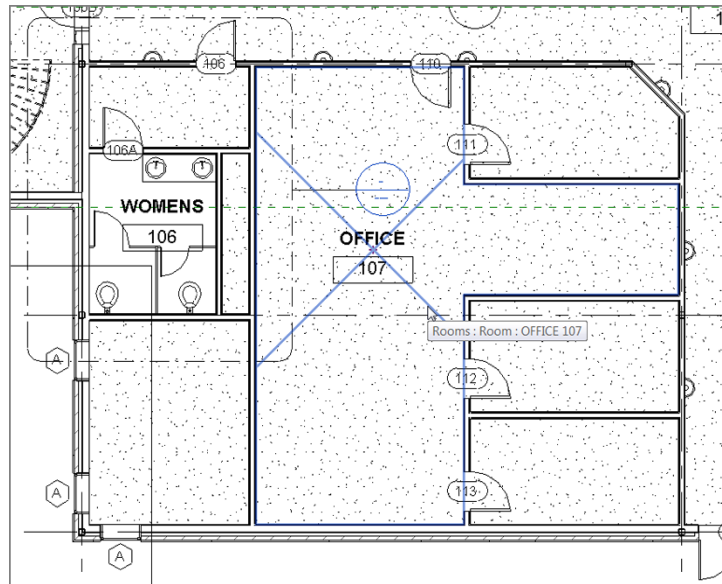

FIGURE 15.5: Renaming the office
3. Pick the large area to the right of the women's lavatory, as shown in Figure 15.5.
4. Rename the room **OFFICE**, and change the number to **107** (see Figure 15.5).